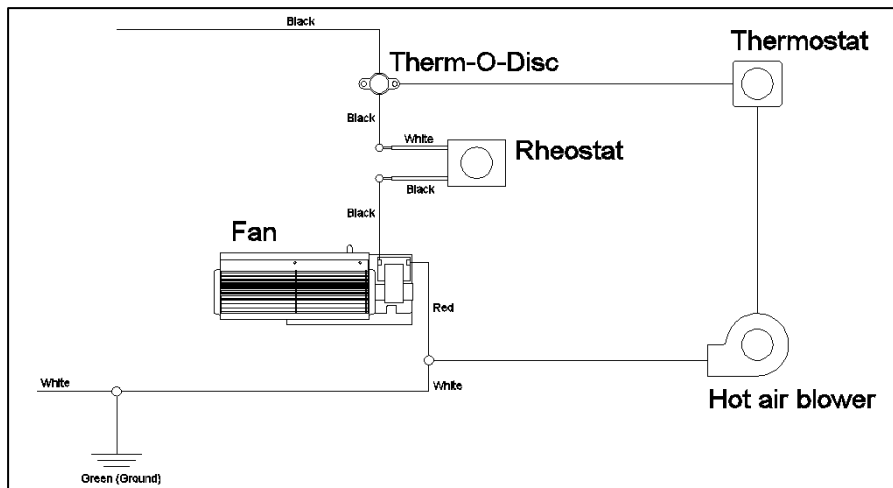

Figure 4-3: Electrical Diagram for Parallel Connection of Hot Air Kit and Blower Kit
7. Make the electrical connections (Figures 4-3 and 4-4). Note that the power supply to the blower is 115V.